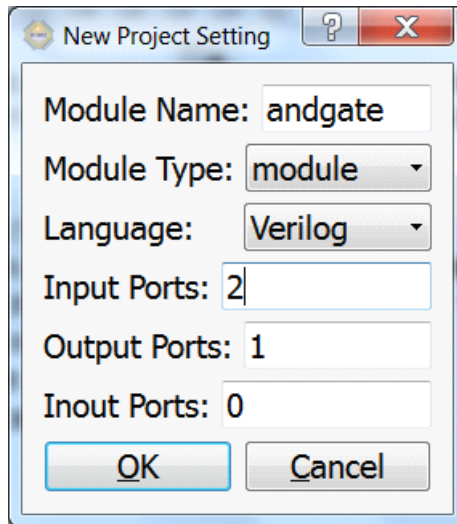

Fig. 2. New project
- 1) Create a new module. Click on icon  in toolbar, or select drop-down menu “New” from menu “File”, a dialog will pop up shows in fig.2. You can set the properties of your design in this dialog.
Elements in Fig. 2: